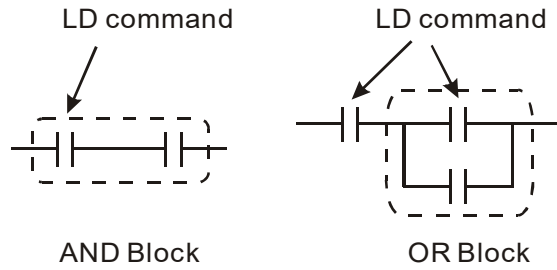

Figure 17-30
**LD (LDI) command:** an LD or LDI command appears at the start of a block. See Figure 17-30.